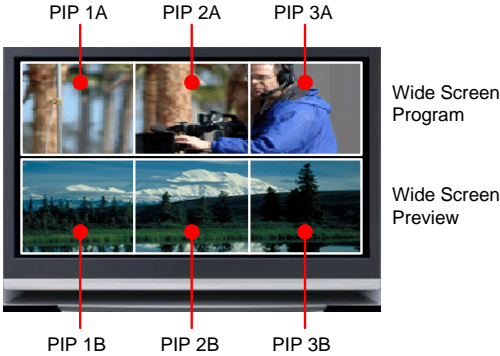

Figure 3-5. Wide Screen Program/Preview Monitor PIPs
5. Scale and align three PIPs for the “Preview” portion of the display, and three PIPs for the “Program” portion, as illustrated in Figure 3-5 on page 77.
9. Scale and align the first PIP for the “Preview” portion of the display, then repeat this step for the remaining layers (**2A** through **3B**). Use Figure 3-5 on page 77 for reference.